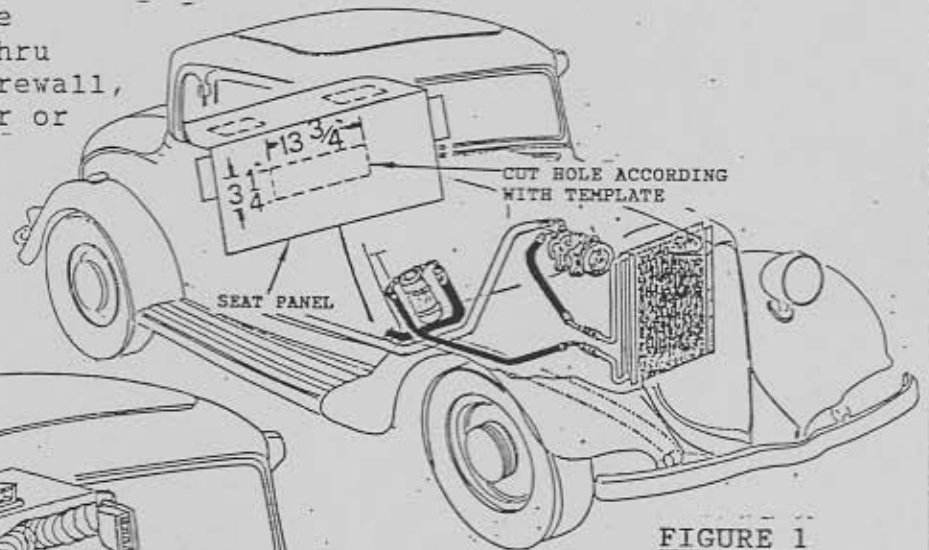

FIGURE 1
5. Have a panel between the passenger compartment and trunk for best cooling results. (make hole in panel for return air grille installation according with measurements on Figure 1).